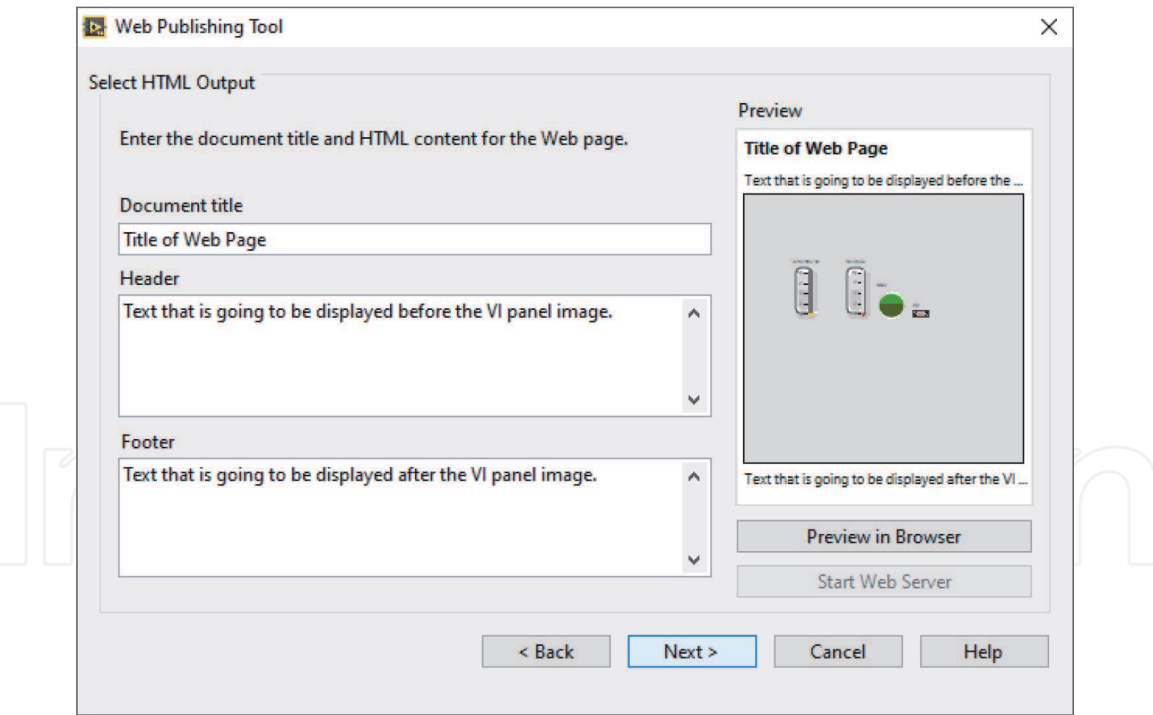

Figure 24.
9. Fill Document title, Header and Footer sections and click **Next** (Figure 24).